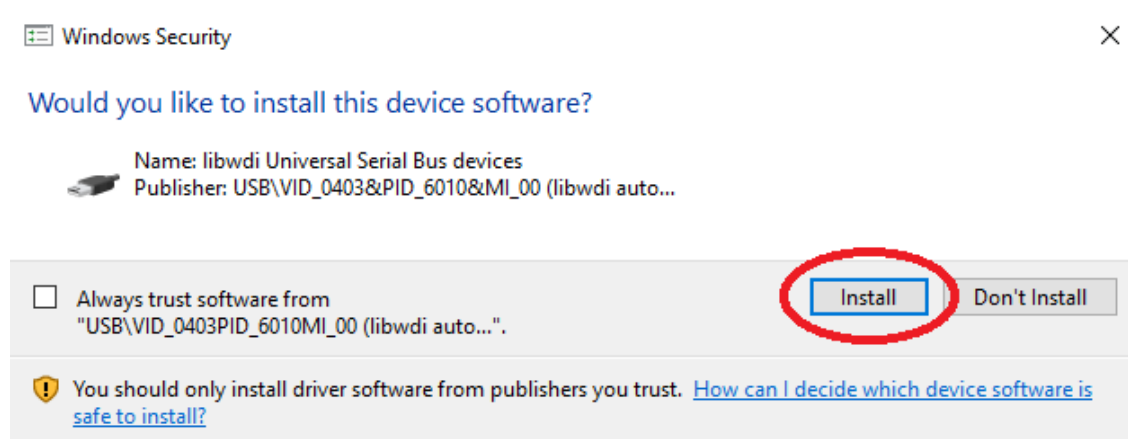

Figure 9 - Install RDI USB Driver with ATM2/ATM3 EVK
- Figure 9 - Install RDI USB Driver with ATM2/ATM3 EVK